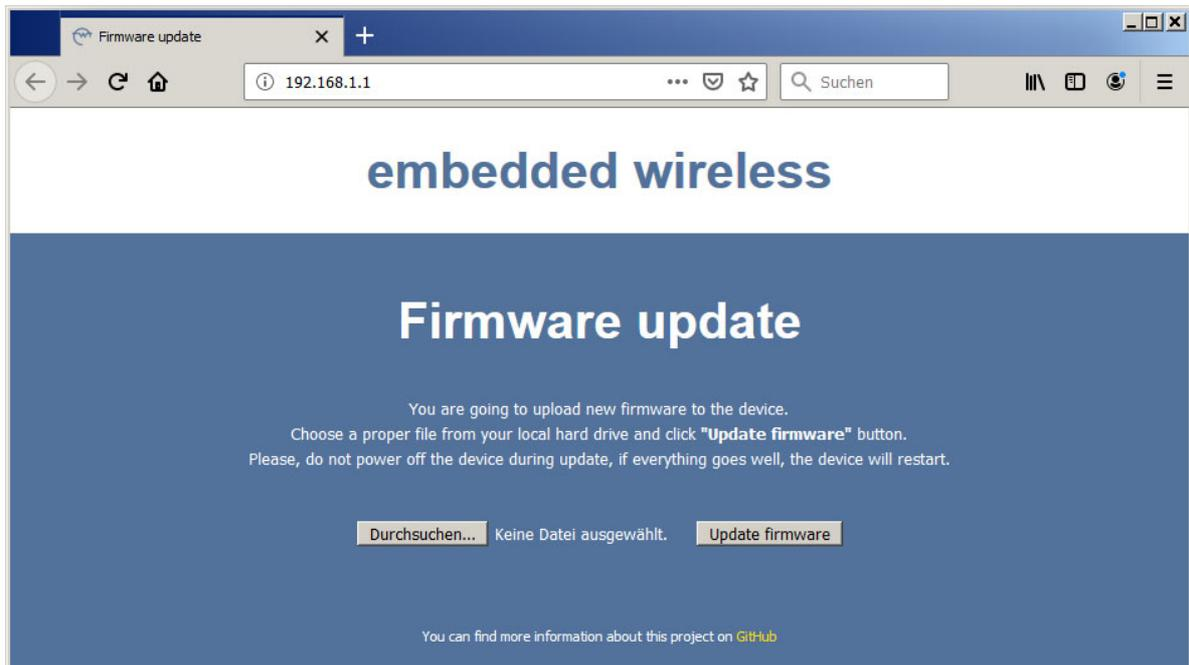

Figure 38: Firmware Update Window
6. Open Internet Browser Window to the Gateway Address assigned by the LTE terminal and the Firmware Update site is shown (see Figure 38).